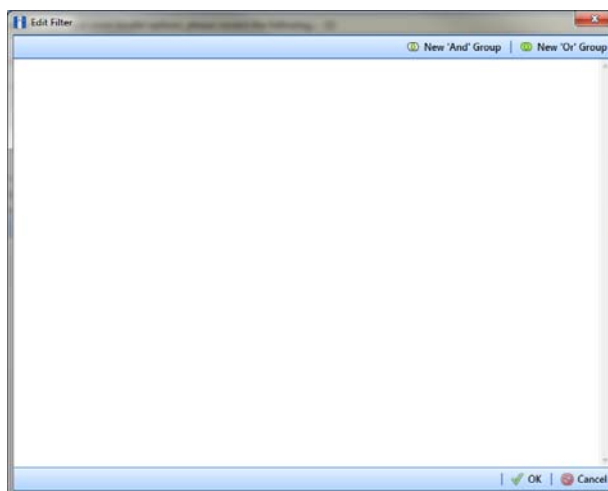

Figure 10-31. Edit Filter
- 7 If you want to set up one or more filters that apply to *all* data items in the definition file, click  **Edit** in the *Filters* group box to open the *Edit Filter* dialog box (Figure 10-31).